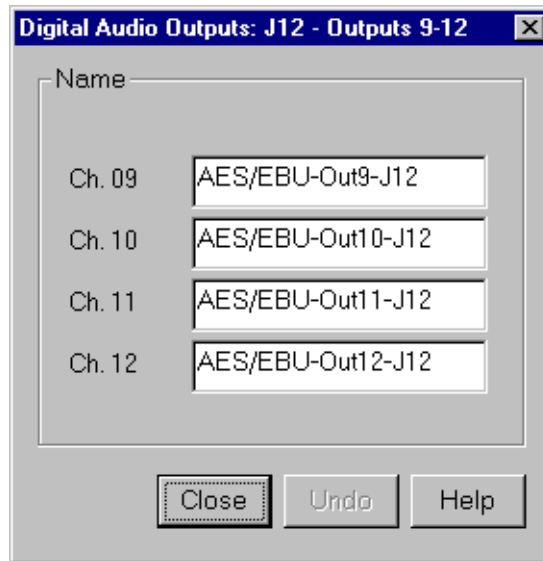

Figure 39. Digital Audio Output dialog box
1. Expand Audio Output, and then click one of the Digital Channels to bring up the Digital Audio Output dialog box (Figure 39). The channel numbers on the left refer to the physical output connectors on the audio output box. **Ch. 01** and **Ch. 02** refer to the channel pair on the first connector, and **Ch. 03** and **Ch. 04** refer to the pair on the second connector, and so forth.